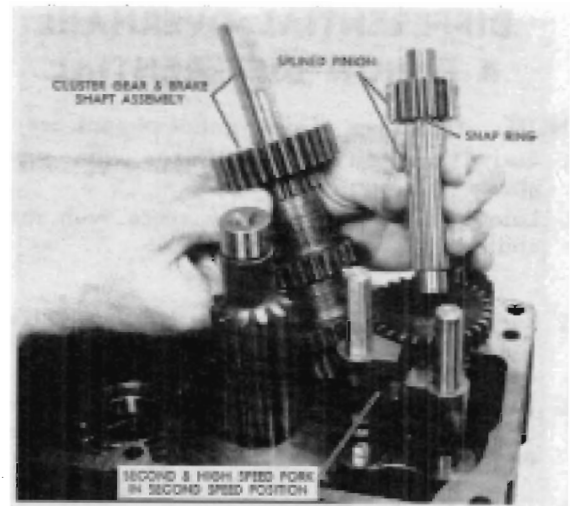

FIGURE 18
7. Install the splined shaft and gear through the two splined sliding gears seating the bottom end of the shaft into the input gear bearing. See Figure 18. Install the cluster gear and brake shaft assembly carefully seating it in its bearing and meshing it with its related gears.